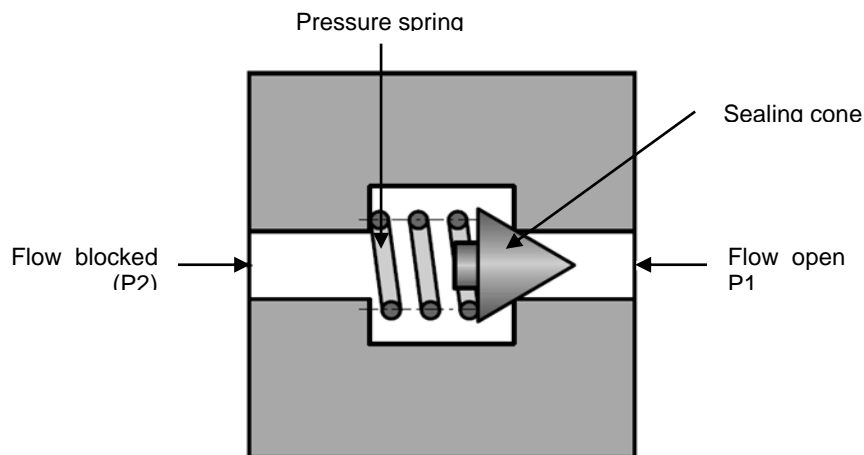

FIG 8.
- A. Check valves / Non-return valves block the flow in one direction and permit free flow in the other direction. (Fig 8)